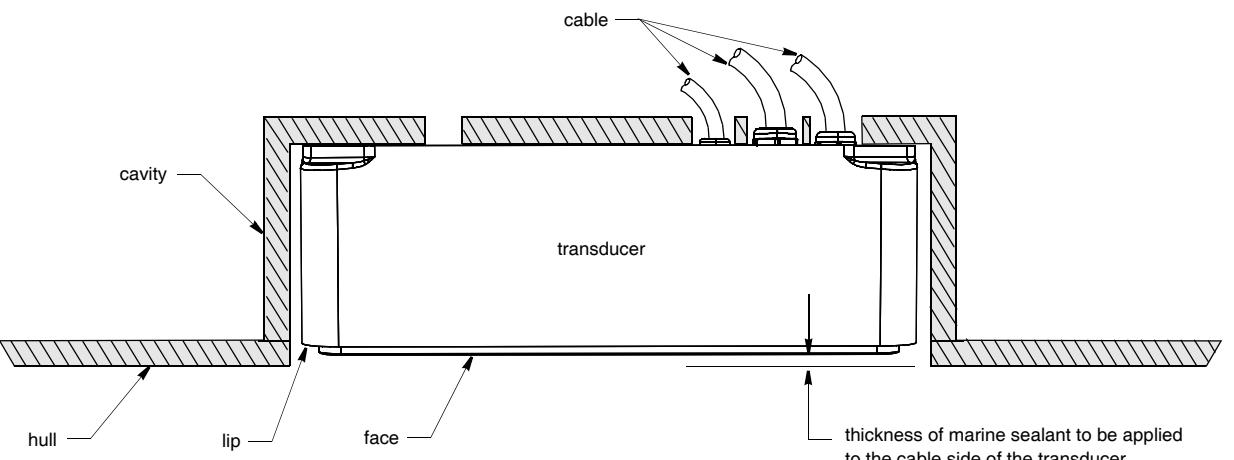

Figure 2. Dry fitting
- From outside the hull, thread the transducer cables through the holes in the mounting cavity (Figure 2). Push the transducer into the cavity as far as possible.
1. To ensure that the marine sealant will adhere properly, on the hull sand the area around the hole, inside and outside. On the transducer, sand all the surfaces that will contact the hull. Sand the lip of the transducer (Figure 2). *Do not sand the face.* Remove all dust using a tack cloth. Do not use alcohol on the transducer.